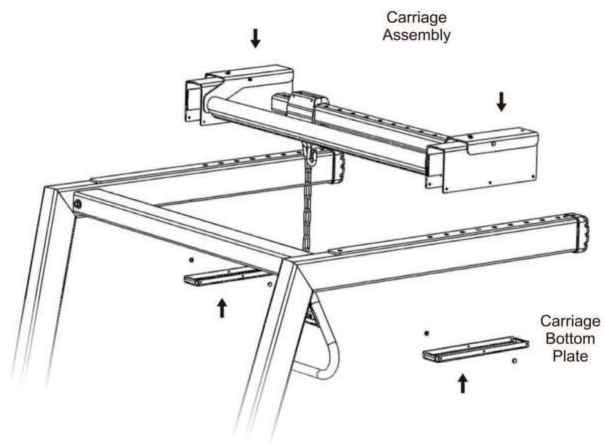

Figure 6
- Install carriage bottom plates (2) to the carriage with (2) fasteners per side (see Figure 6). Utilize the center holes on each side.